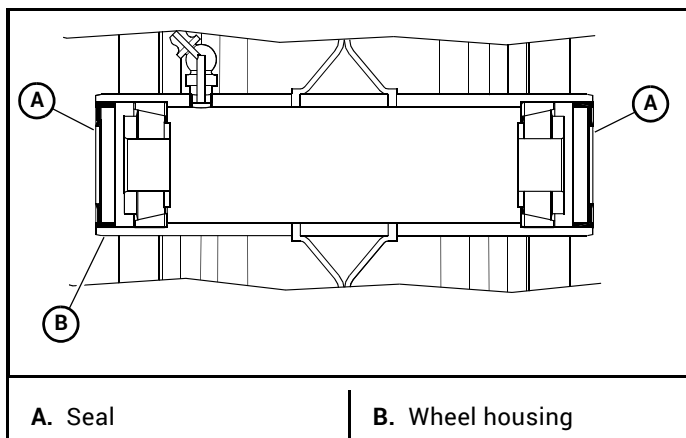

Figure 4-33
3. Insert the new tapered roller bearings into the outer bearing race. Figure 4-33
4. Insert the new seals into the wheel housing. Make sure that the flat side of the seal is flush with the outside edge of the wheel housing. Figure 4-33